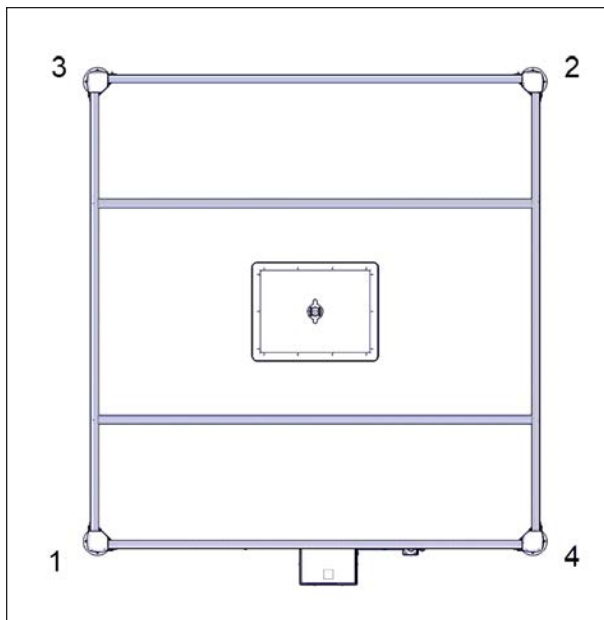

FIGURE 47: INSTALLATION PATTERN FOR THE OUTER CORNER BRACKETS
26. Install the outside corner brackets following the installation sequence shown in Figure 47. The first bracket goes to corner number 1 and so on.